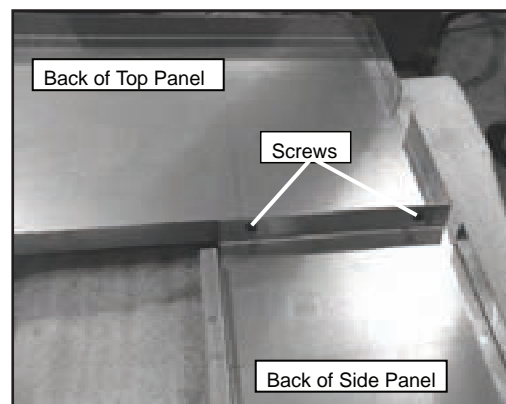

Figure 21.3
1. Secure the top panel to the panel sides with the screws provided. **Figure 21.3.**